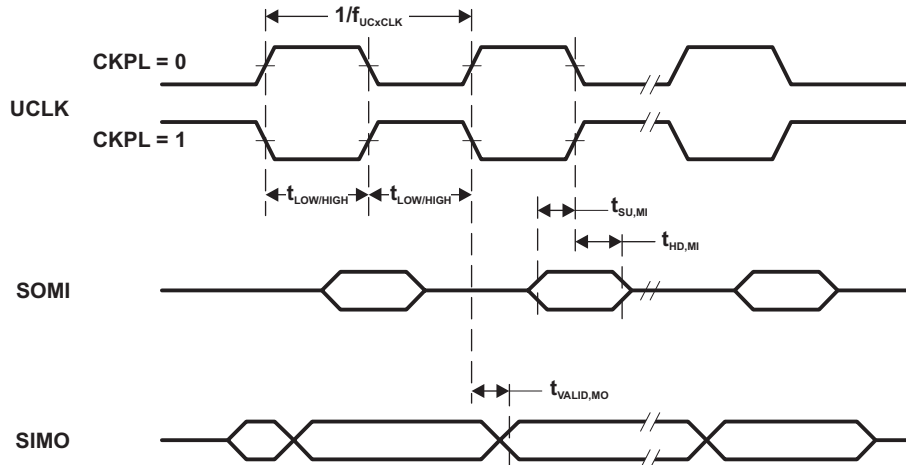
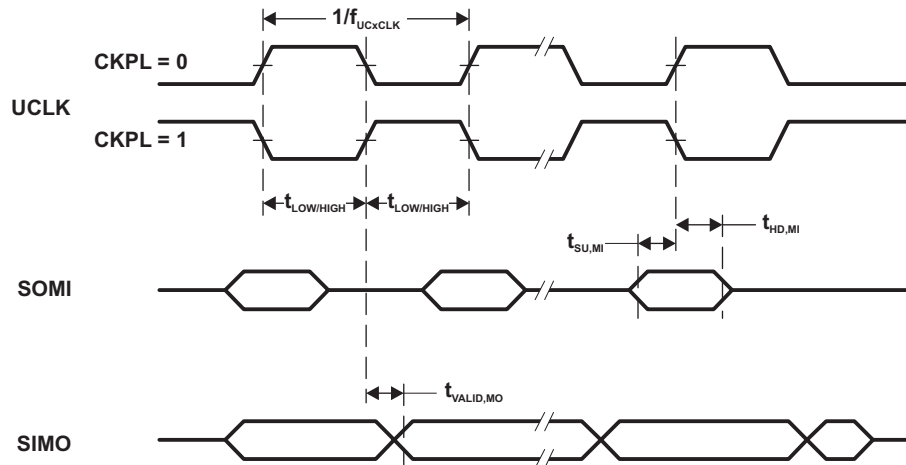

Figure 5-10. SPI Master Mode, CKPH = 0
Figure 5-11. SPI Master Mode, CKPH = 1
- Specifies the time to drive the next valid data to the SIMO output after the output changing UCLK clock edge. Refer to the timing diagrams in Figure 5-10 and Figure 5-11.
- Specifies how long data on the SIMO output is valid after the output changing UCLK clock edge. Negative values indicate that the data on the SIMO output can become invalid before the output changing clock edge observed on UCLK. Refer to the timing diagrams in Figure 5-10 and Figure 5-11.